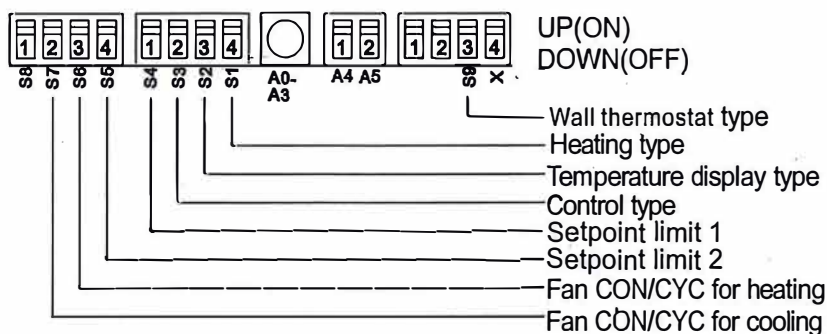

Fig.4
- See Table 1 and Fig.4 for Dip Switches configurations and functions of each dip switch position.